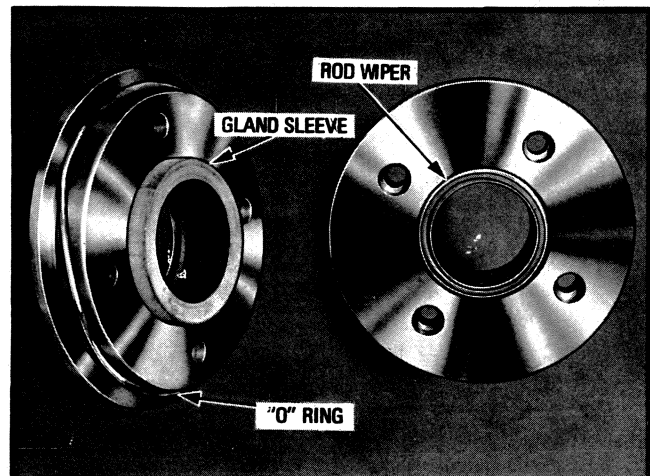

Fig. 5—Gland Assembly
1. Place new wiper, gland sleeve and barrel-to-gland "O" ring on gland as shown in Fig. 5.